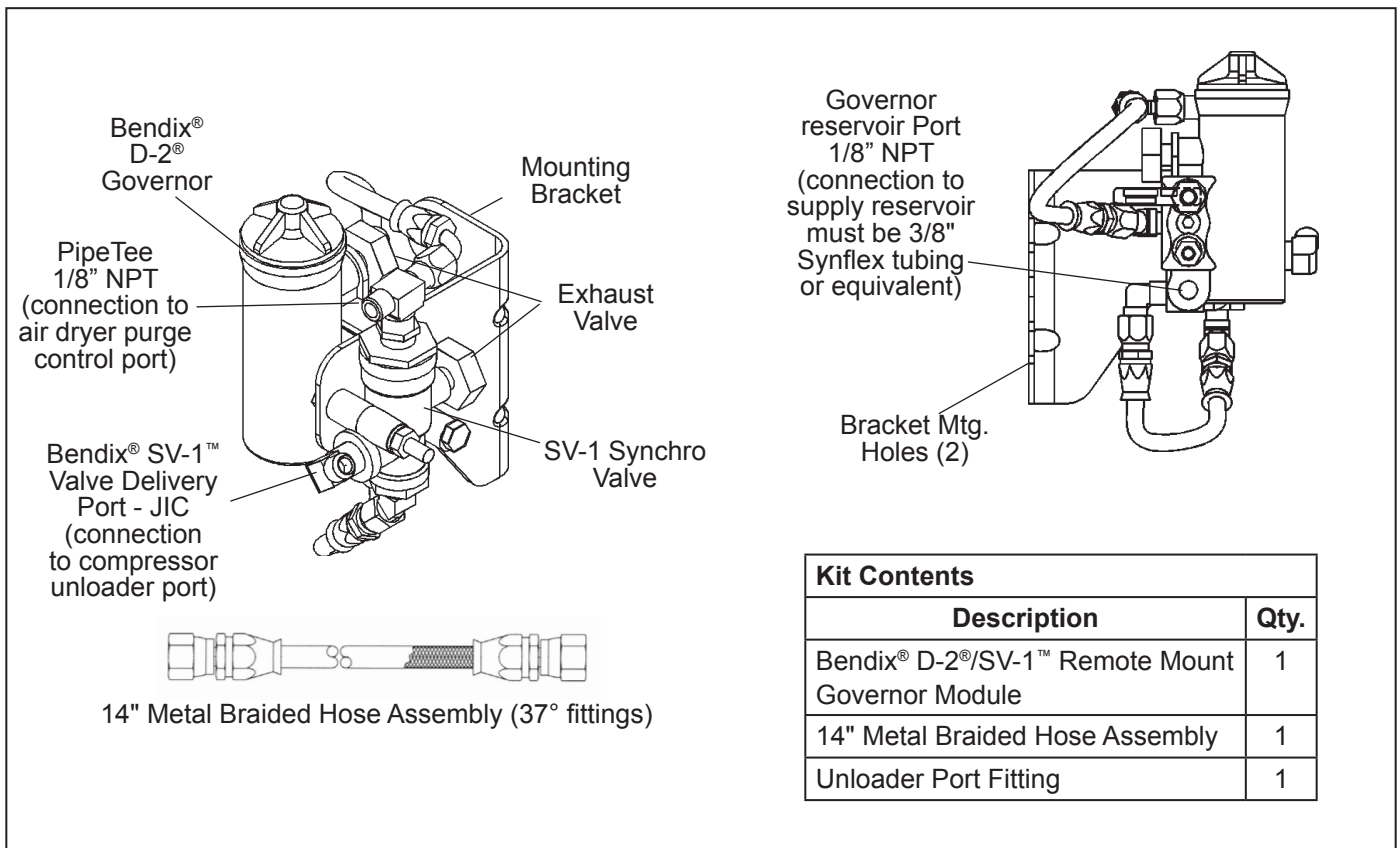

Figure 1 – Bendix® D-2®/SV-1™ Governor Module
2. Identify for re-connection, then remove the air dryer purge tubing or hose at the pipe tee installed in Bendix® SV-1™ synchronizing (synchro) valve on the module assembly. (See Figure 1.)
3. Identify for re-connection, then remove the 3/8" Synflex tubing or (equivalent I.D.) hose at the Bendix® D-2® governor reservoir port (marked RES) on the module assembly. (See Figure 1.)
4. Identify for re-connection, then remove the metal braided hose from the right angle fitting installed in the synchro valve delivery port on the module assembly. (See Figure 1.)
6. Install one end of the 14 inch metal braided, hose assembly on the compressor unloader port fitting and the other end on the right angle fitting located in the delivery port of the SV-1™ synchro valve. (See *Figures 1 & 2*.)
7. Connect the air dryer purge tubing or hose to the fitting installed in the pipe tee on SV-1 valve (this fitting is not supplied with the module or kit). (See *Figure 1*.)